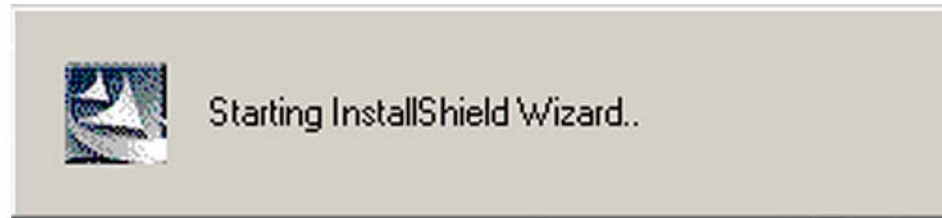

Figure 6-6: Audio Driver Install Shield Wizard Starting
- Step 2:** Once the **Setup** icon is double clicked, the install shield wizard for the audio driver starts. See **Figure 6-6**.